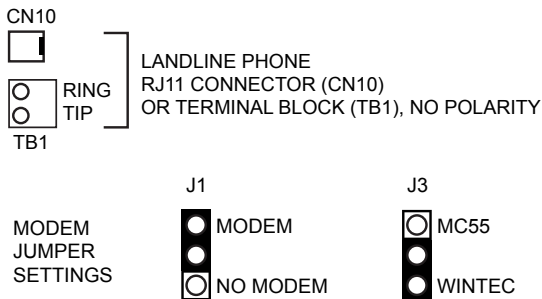

Figure 3.4—Land line modem settings
1. Set jumper J1 on the main board to the modem setting, as shown in Figure 3.4.
- If the land line cable is terminated by an RJ11 connector, plug the connector into the CN10 (RJ11) connector on the main board, as shown in Figure 3.4.